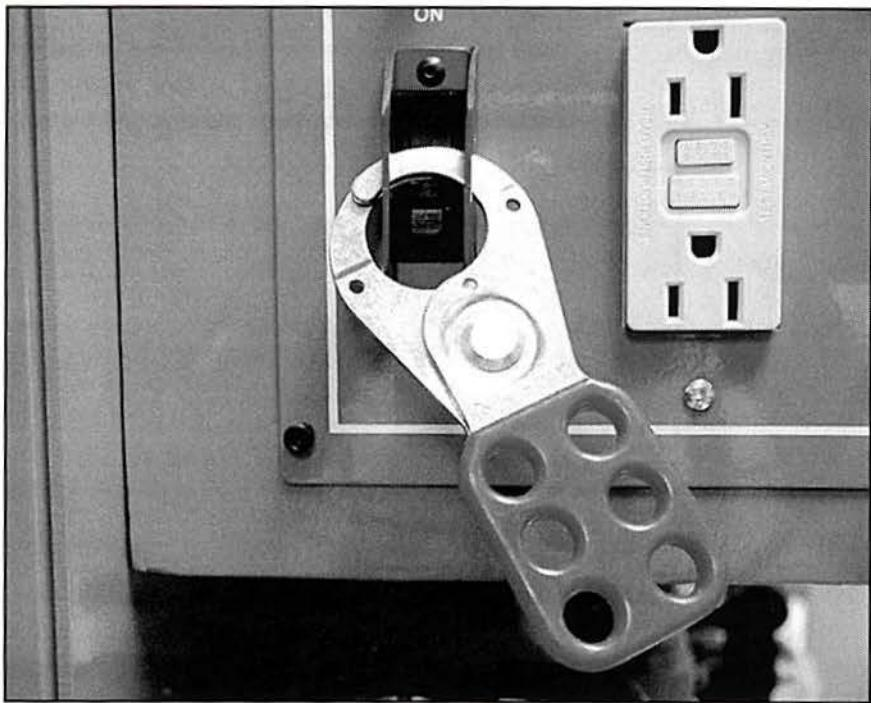

Figure 40. Lockout Device Hooked Through Hole in Brackets
- C. Open the lockout device and hook it through holes in the brackets on both sides of the circuit breaker, as figure 40 shows.